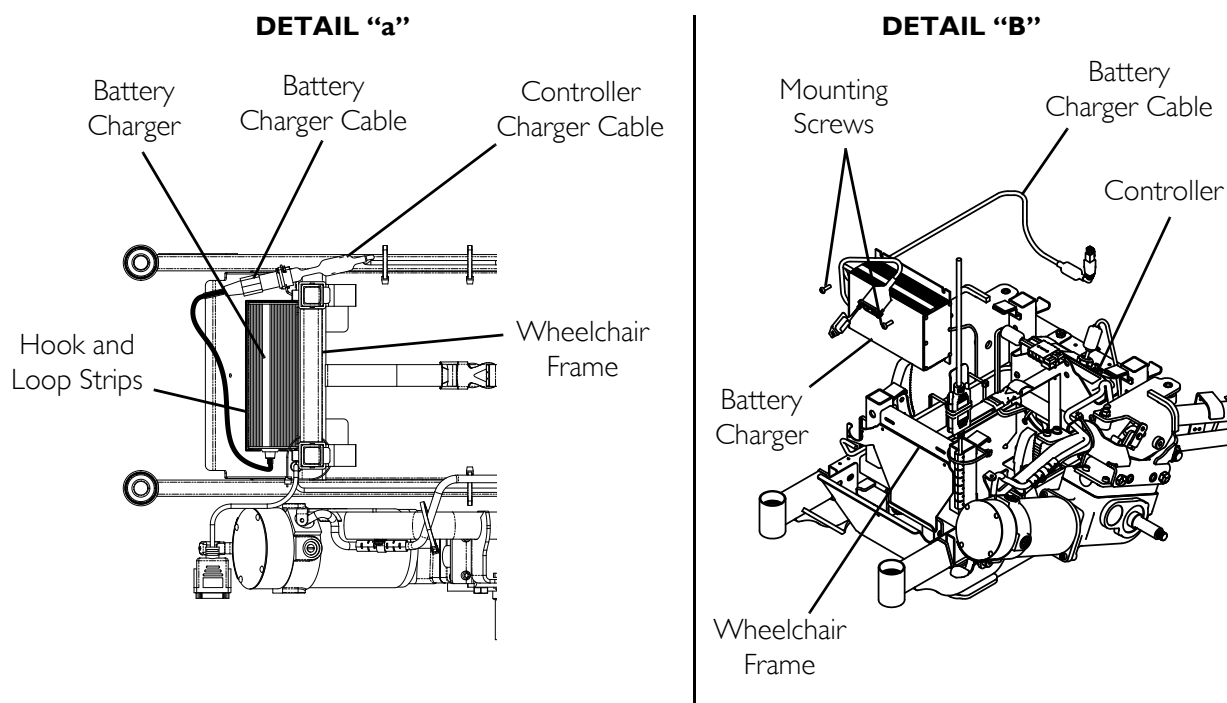

FIGURE 11.4 Replacing the On-Board Battery Charger
NOTE: For this procedure, refer to FIGURE 11.4 on page 114.
- M91 Before 12/19/03 (Detail “A” of FIGURE 11.4)
- M91 Built between 12/18/03 to 4/1/04 (Detail “A” of FIGURE 11.4)
- M91 After 3/31/04 and M94 wheelchairs (Detail “B” of FIGURE 11.4)
- M91 After 1/31/04 and M94 wheelchairs (Detail “B” of FIGURE 11.4)